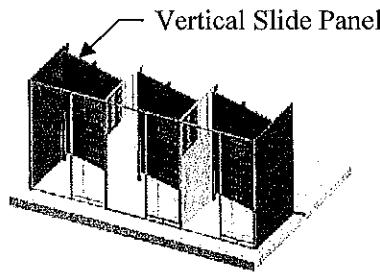

Figure 9
5. Locate the Vertical Slide Panels and place them inside the kennels you have already half way assembled as shown in (Figure 9).